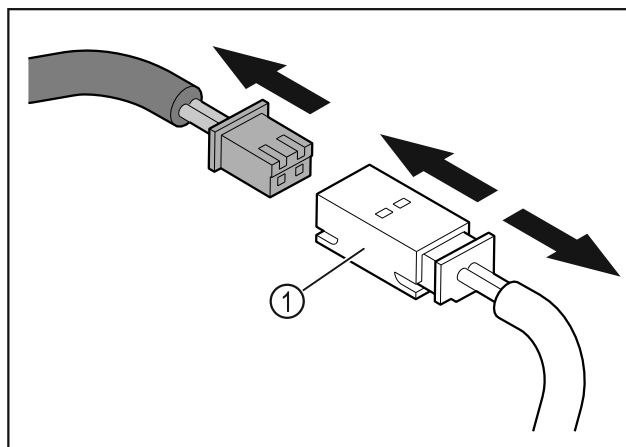

Fig. 9
- Disconnect the plug and the plug coupling Fig. 9 (1).